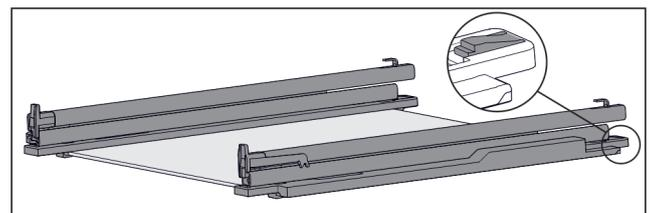

Fig. 116 Glass shelf with rails and retaining parts
- ▶ Press down retaining part at the rear (see Fig. 116) and at the same time push the rail back.